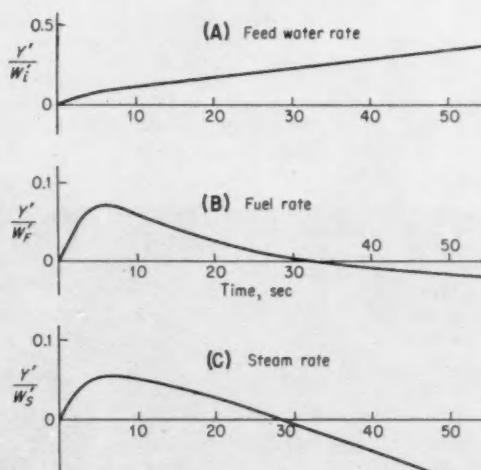

FIG. 6. Open-loop transient response of water level with step-change in feed-water rate, fuel rate, and steam rate.
Figure 6 shows the transient response of water level y for a step change in feed-water rate (A), fuel rate (B), and steam-flow rate (C). Note that for a sudden change in the steam flow rate, the water level first goes up, then decreases at a more or less uniform rate. The swell observed here is the result of the sudden evaporation in the riser because of reduced drum pressure. It is similar to the swell observed in the boilers when there is a sudden increase in load, although as was mentioned before, the analysis does not include the effect of the bubble formation within the drum liquid. Hence, the set of equations developed will predict swell and shrink, but only qualitatively.